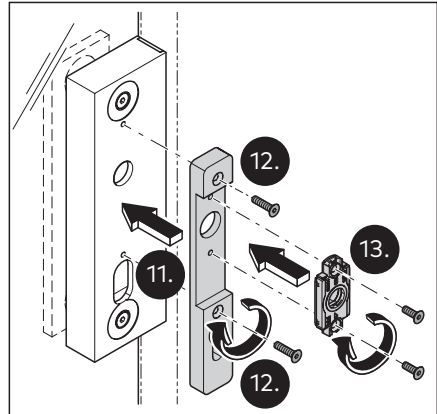

Fig. 18 Fix the base plate onto the lock mortise
- Put the base plate on the lock mortise (Fig. 18).